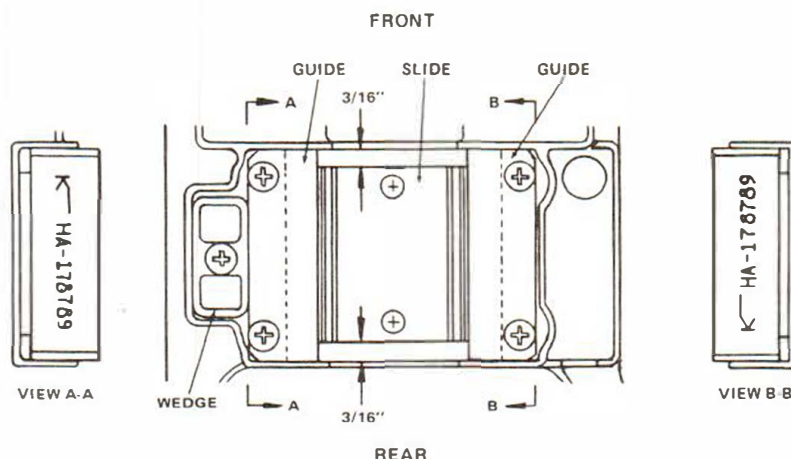

Figure 22. Assembled View of Slide Bracket Assembly
- A. Refer to Figures 22 and 23. Remove the single Phillips head screw from the slide adjusting wedge.
- D. Refer to Figures 22 and 23 as needed to assemble. Assembly is as follows:
2. See Figure 22. Assemble the two bearing assemblies, two guides and the slide. Place them, as a unit, into the slide bracket casting. Ensure that the Kirby part numbers and logo on the guides are oriented as shown in views A and B of Figure 22.
4. Position slide as shown in Figure 22 and hold in position. Align ends of bearing assemblies to align with ends of slide. Install two Phillips head screws handtight into left side guide.